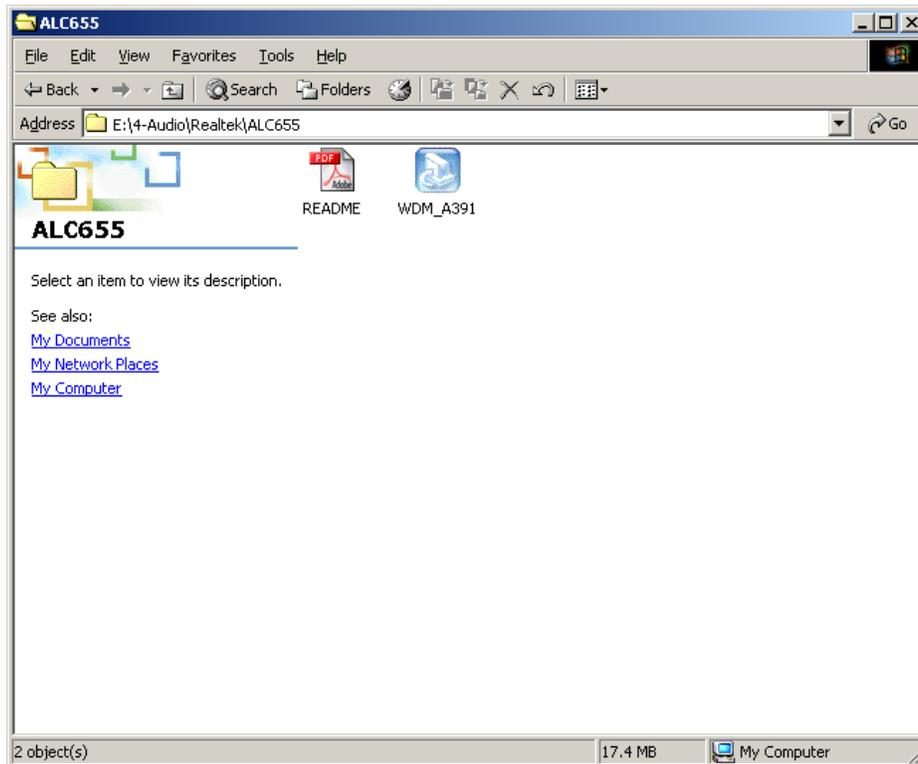

Figure 6-14: Audio Setup Icon
Step 6: Select the WDM_A391 icon shown in **Figure 6-14**.